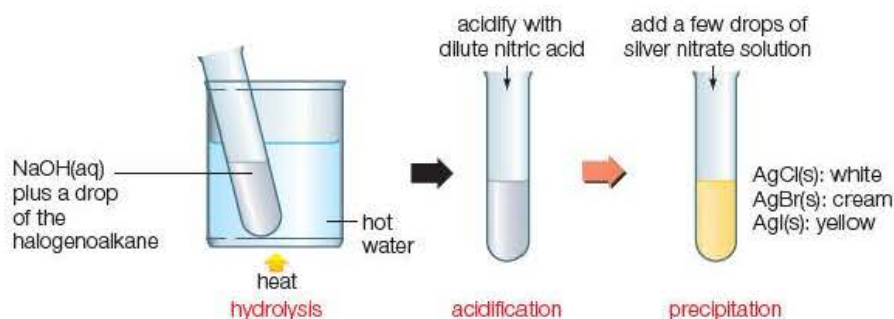

Figure 15.14 ◀
- 21 Refer to Figure 15.14 in answering this question.